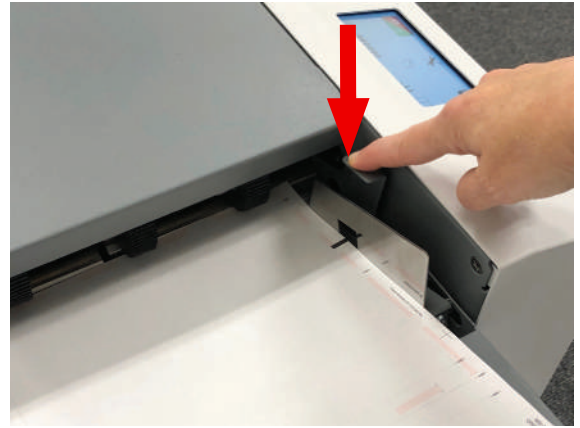

Fig. 6
5. Push down on the infeed tray lever to lower the infeed tray (Fig. 6).